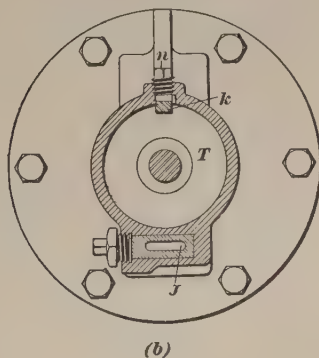

FIG. 20
36. Intercepting Valve.—From the sectional view given in Fig. 20 (a), it will be seen that the intercepting valve consists of three parts f , g , and h . The end i of part f is carefully finished, also a hole j is cut in the top of f , and the parts f and g are connected by a rib k $\frac{1}{4}$ inch thick. The second part is cylindrical also, and forms a chamber g into which the ports marked a open. Two ribs, at right angles to each other, divide chamber g into four compartments, and each compartment is provided with a port, the ribs being broken away in the figure to show the ports. There is a
37. Reducing Valve.—The reducing valve O , Fig. 20, is free to move back and forth a distance of about $\frac{3}{4}$ inch between pistons 3 and 4. The valve is bored out to a neat fit for the piston 3, which forms a dashpot that prevents slamming, while piston 4 acts as a guide for the valve. Two packing rings are provided to prevent the leakage of steam back of the valve, while the outlet p permits any steam that may leak by to escape to chamber Q and thence to the